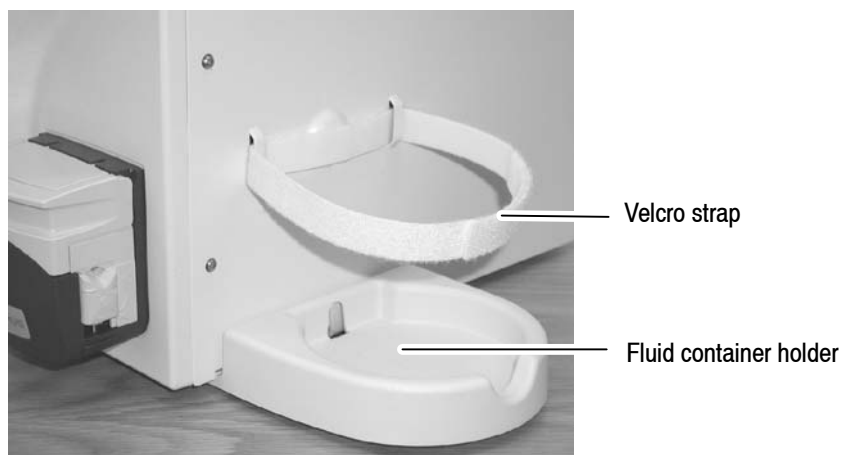

FIGURE 3-2
- 3.4 Fill the fluid container with sterile water and replace the cap. Place the fluid container in the space provided (see Figure 3-2) and secure with the Velcro strap.